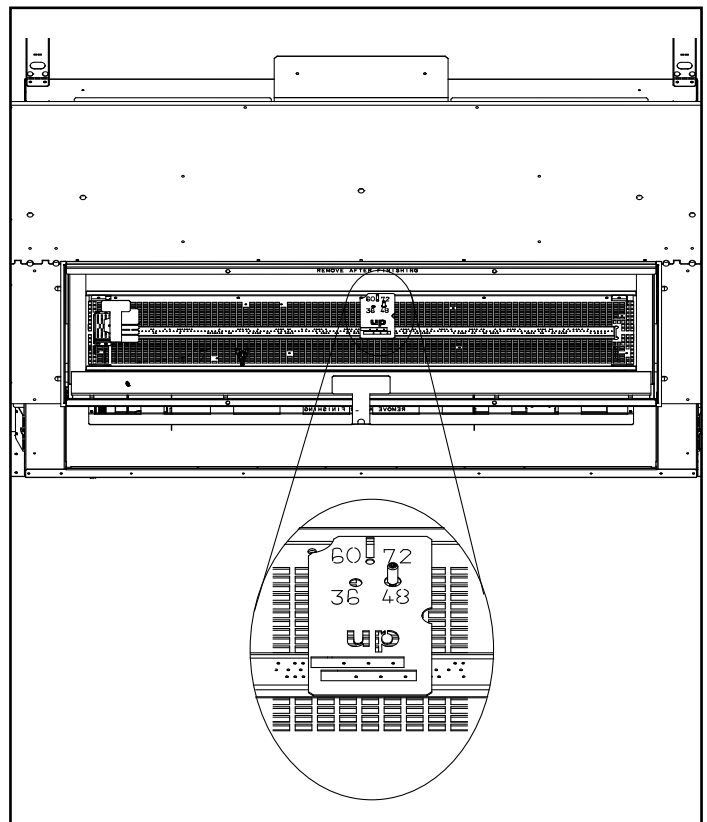

Figure 2. Location of Burner Port Fixture
9. There are 6 burner port holes that must be plugged in order to prevent sooting. Place burner port fixture over shoulder screw #7 as shown in Figure 2. Ensure the "UP" marking is in the correct orientation. The corner cut out will fit around a media tray screw as shown in the detail of Figure 2.